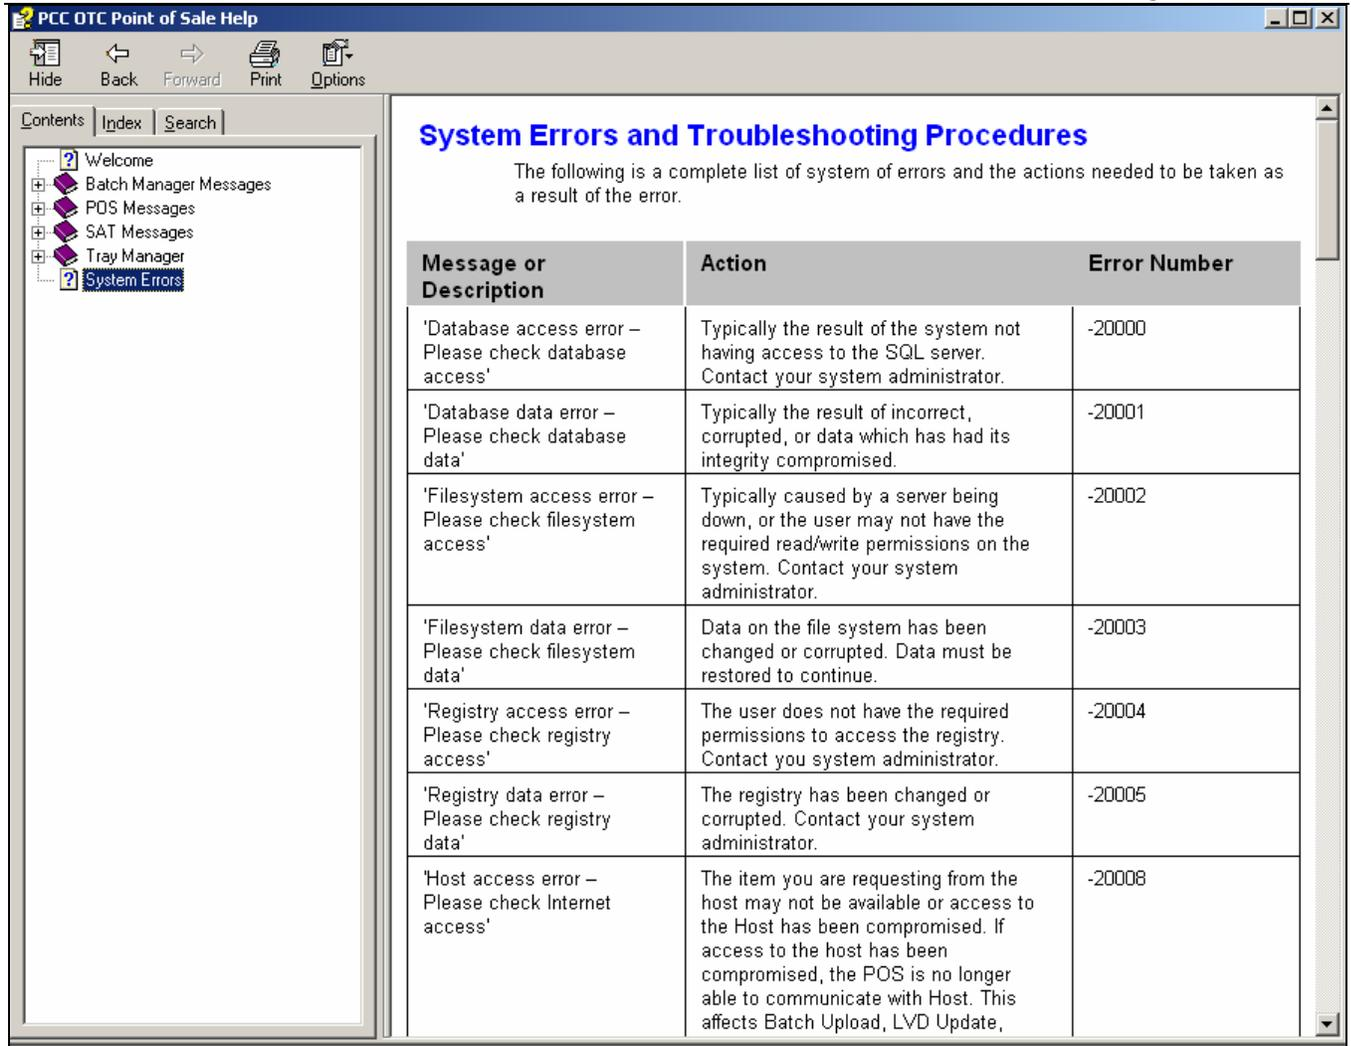

Figure 3.43
2. Click the last option in the left window called 'System Errors'. The following screen will appear (Figure 3.43)